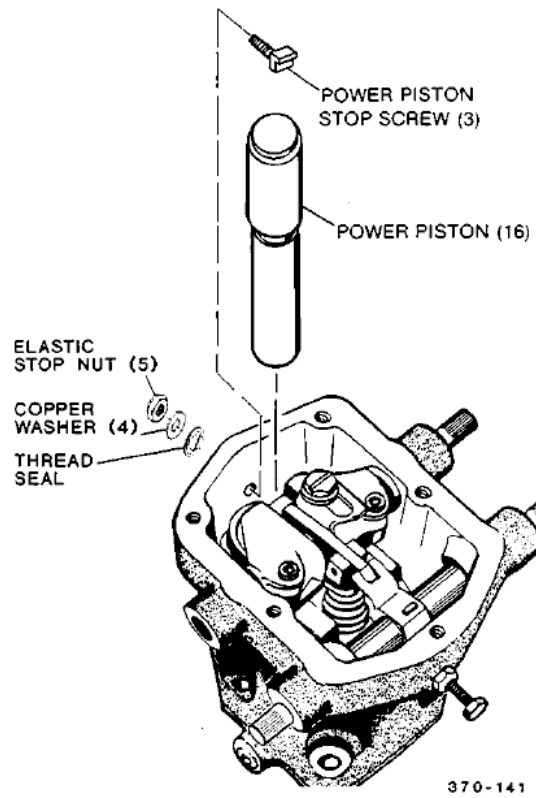

Figure 4-16. Installation of Power Piston and Piston Stop Screw
8. Remove the power-piston-stop screw (Figure 4-16, #3).